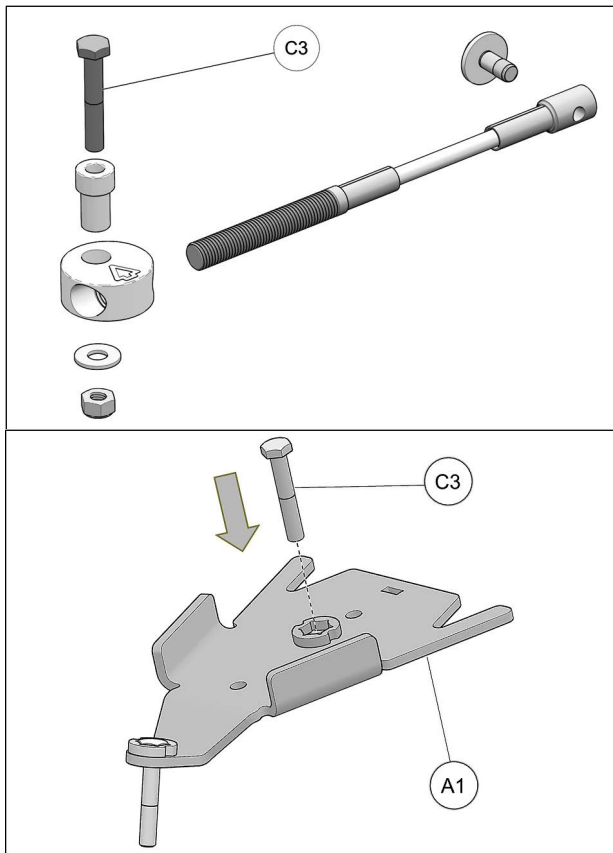

Fig. 20
9. Retrieve the M10x60mm bolt (**C3**) from the Steering Limiter assembly and insert it in the front anchor bracket (**A1**) as shown in Fig. 20